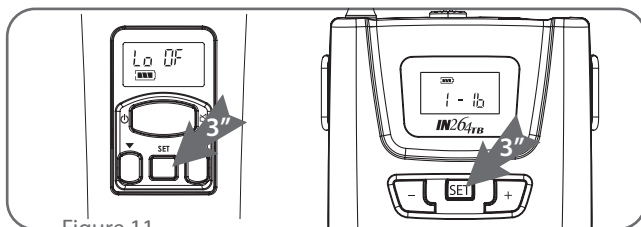

Figure 11
- (1) Press "Set" button ②③ for 3 seconds to enter setting window. (Figure 11)
- (2) Press "Set" again until the Lock setting window shows.